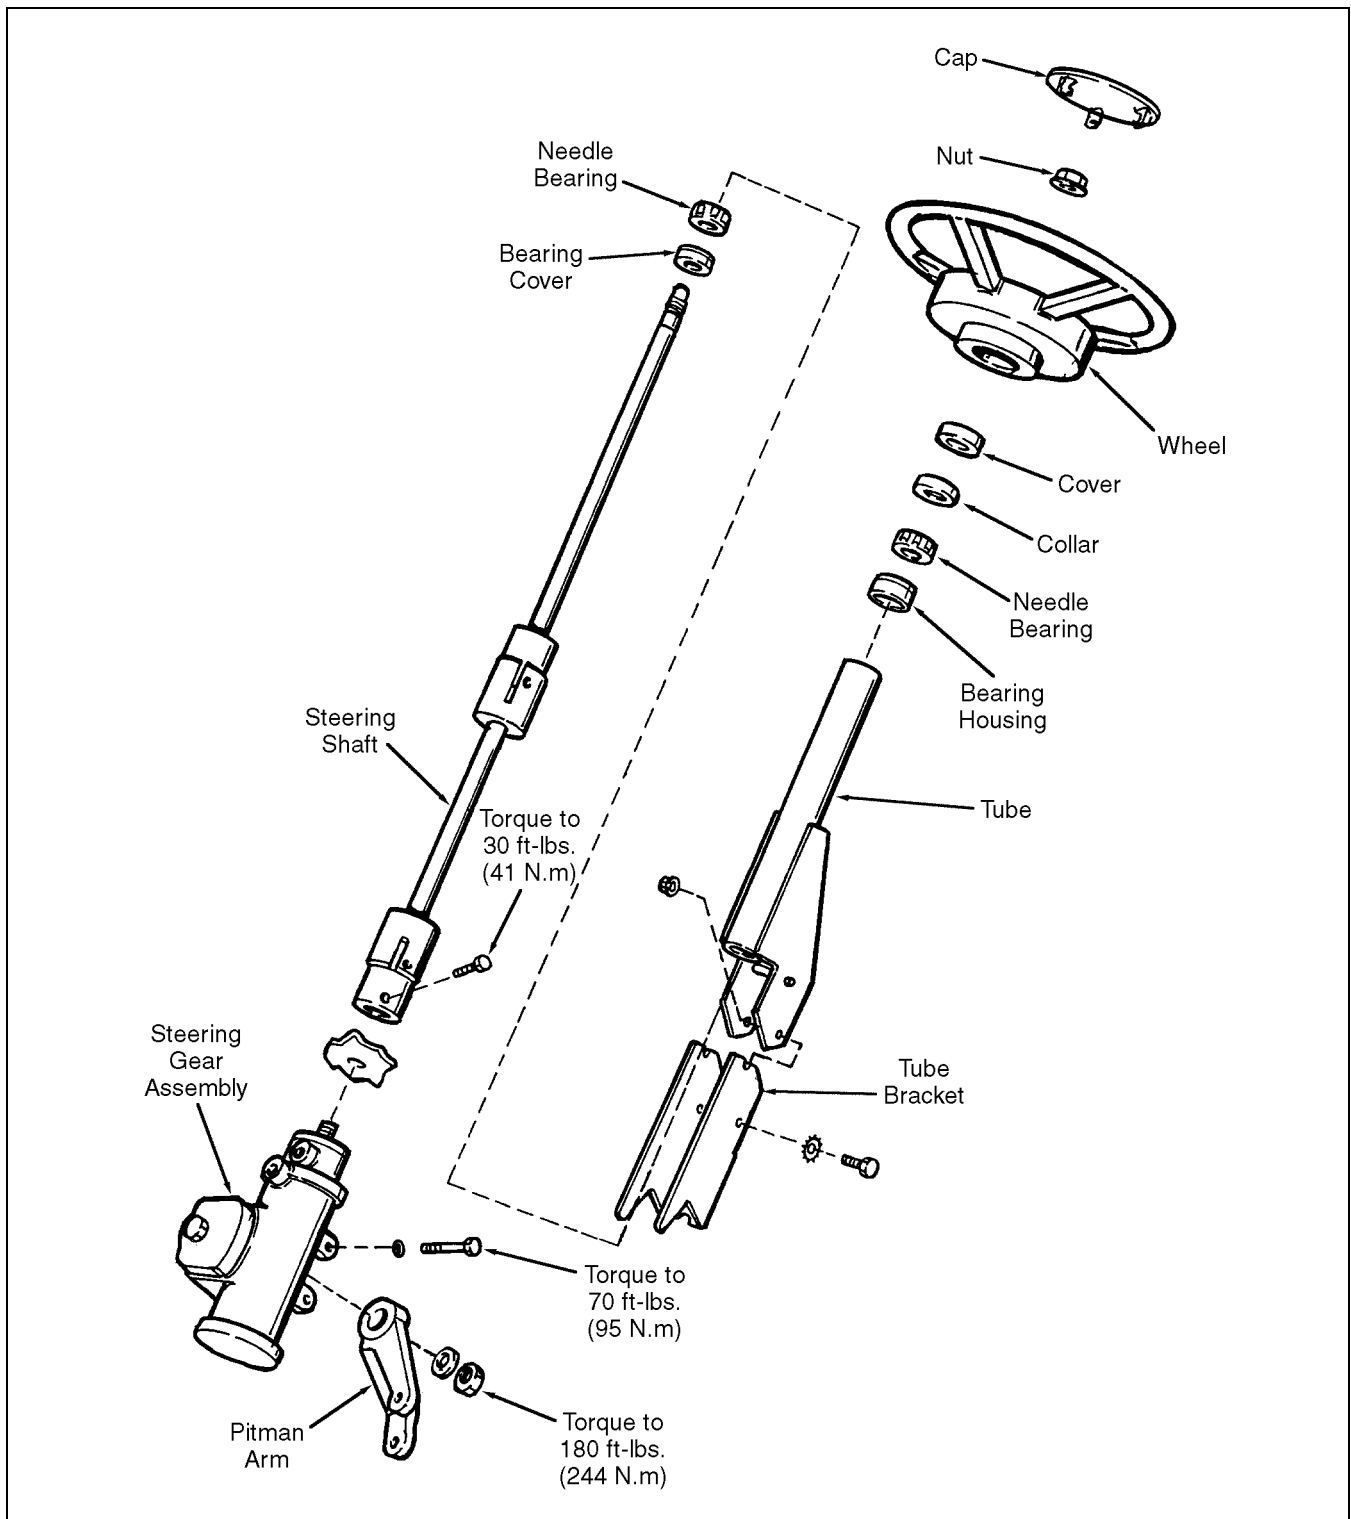

Figure 6C-4. Steering Column
4. If no further repairs are required, reconnect the tie rods to the pitman arm and secure with nuts and cotter pins as shown in Figure 6C-3.
REMOVING AND INSTALLING STEERING GEAR ASSEMBLY (See Figure 6C-4)
2. Tag, mark and disconnect hoses from steering gear assembly (see Figure 6C-1). Plug and cap ports and hoses.